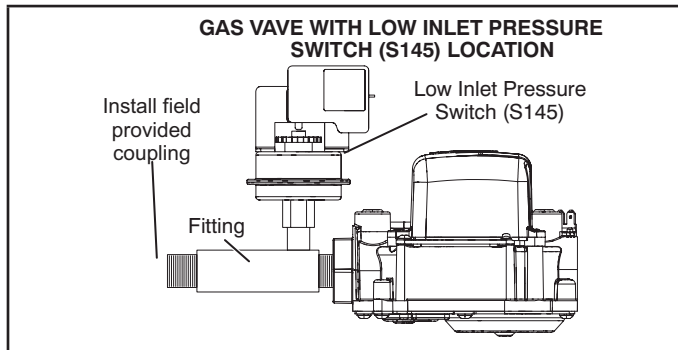

FIGURE 4
- 9 - Thread the gas supply to the fitting until hand tight. A field provided coupling may be needed. See figure 4. Using properly sized wrench to support fitting, tighten supply line into fitting 2 to 3 full turns to achieve leak free joint.